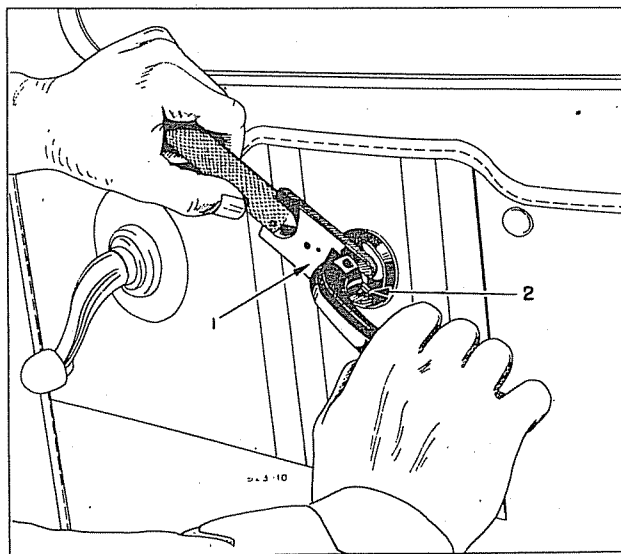

Fig. 1 — Removing Inside Door Handle
- (1) Press escutcheon plate against trim panel, exposing pin which holds handle to shaft.
- (2) Push the pin out of the shaft with slim rod or special tool, see Figure 1. The handle and escutcheon plate then can be pulled off the shaft.